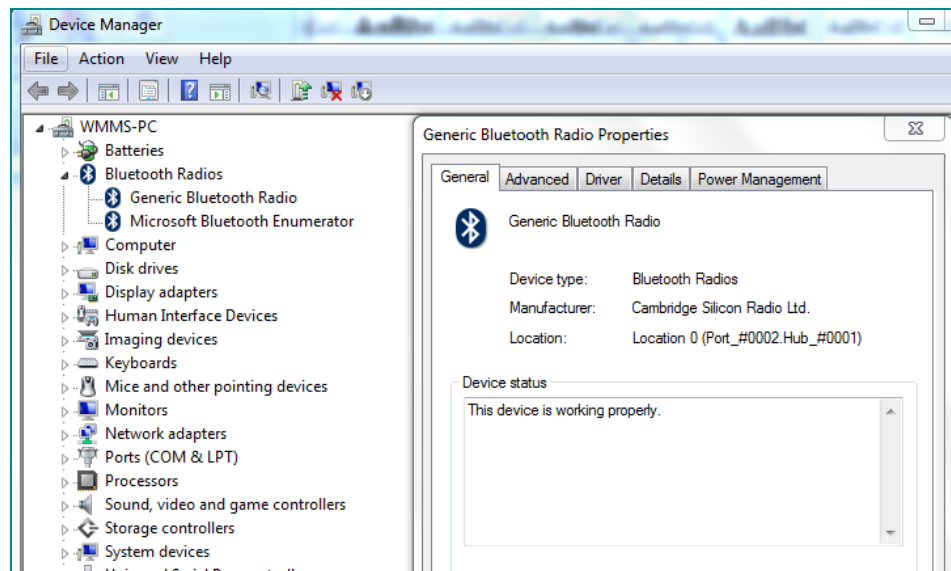

Figure 4-10. Locating the properties of the “Generic Bluetooth Radio”.
3. Right click the “**Generic Bluetooth Radio**” and click “**Properties**”. You should see a “window” like the one shown in Figure 4-10.